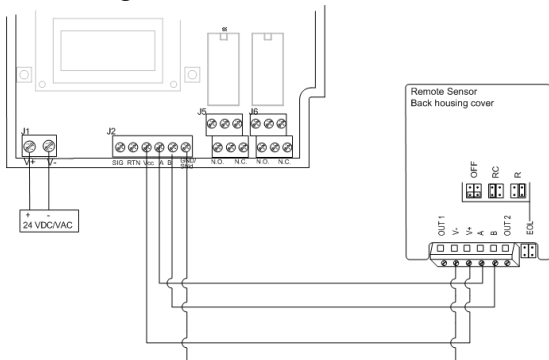

Figure 2. Connecting Main Sensor to Remote
- Run the wires through the electrical box and connect to the remote sensor (as indicated in Figure 2).
- Press the sensor (2) into the faceplate (1) and close and press the back cover (3) into the faceplate. You should hear a click.
- Securely mount the unit to the extra wide electrical box (4) using the appropriate screws (5).